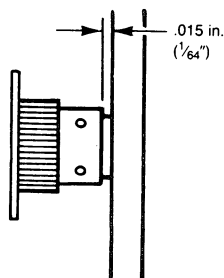

Figure 5.21 Drive Pulley Clearance
6. Install drive pulley on the motor shaft so there is 1/64 in. clearance with the end plate (see Figure 5.21).